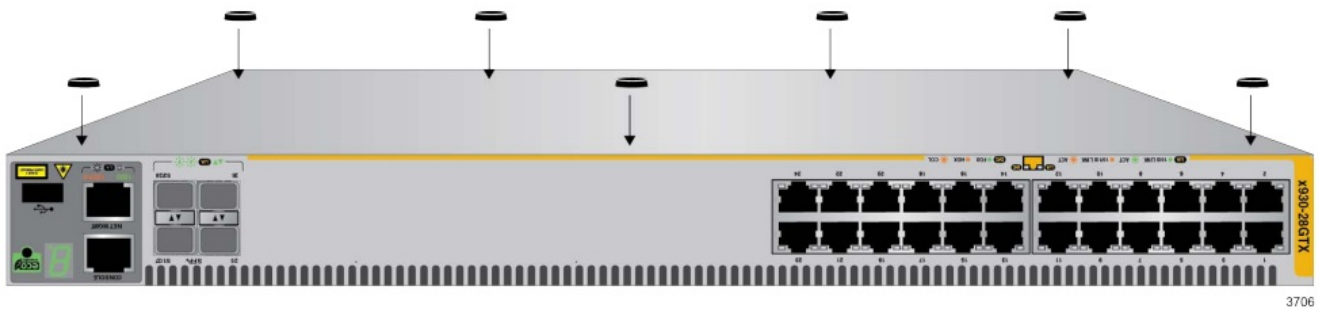

Figure 39. Installing the Bumper Feet
5. Install the seven bumper feet to the bottom of the switch, as shown in Figure 39.